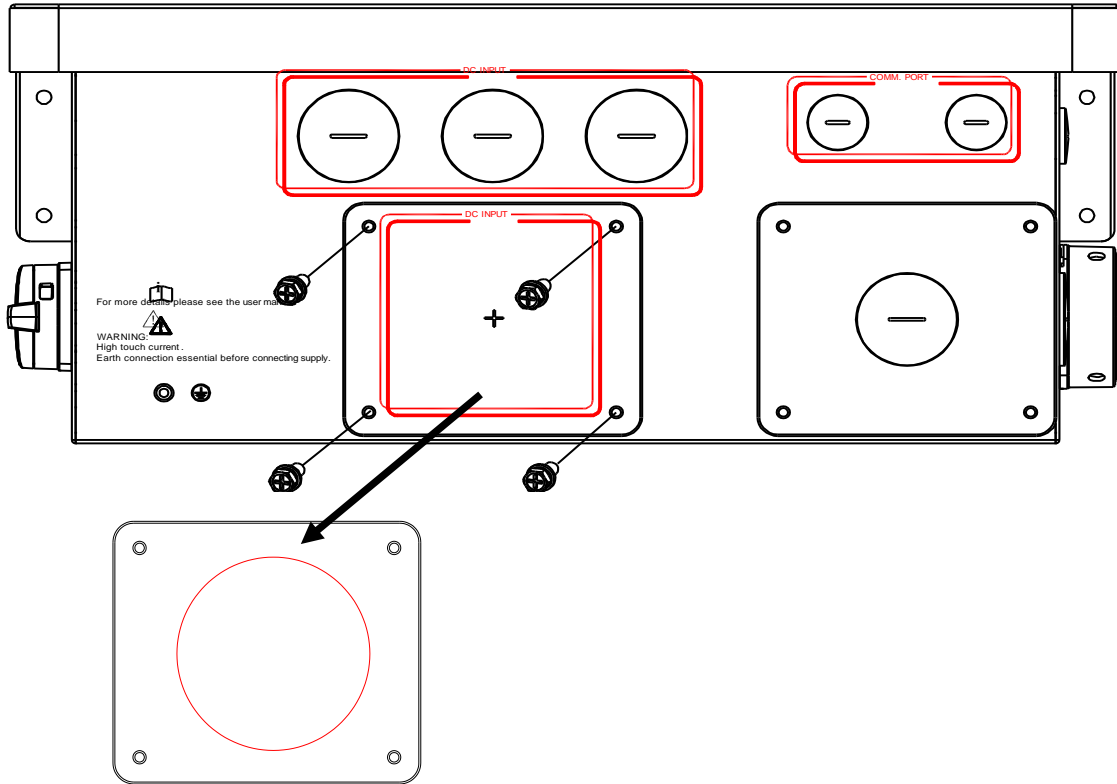

Figure 3-23 DC input through single knockout hole
- a. Remove the **M6x18 screws** (4 pcs) securing the DC gland plate to the wiring box. (see Figure 3-23) Removing the gland plate before punching the hole is required to ensure metal filings are not introduced into the wirebox.